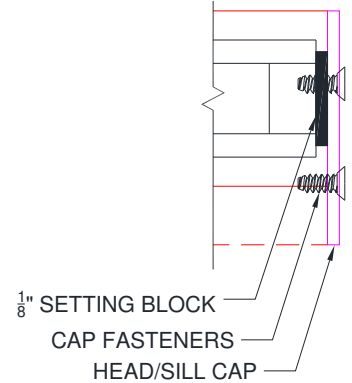

Figure E1:
- Install a 1/8" setting block between the glass and the caps at the head/sill (Figure E1).